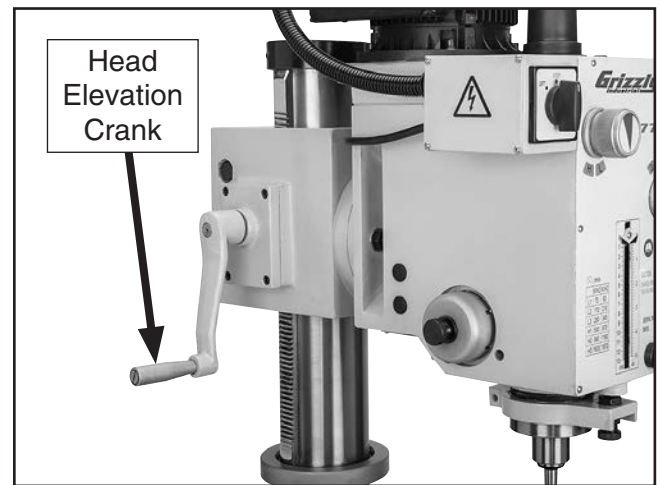

Figure 15. Location of head elevation crank.
3. Use head elevation crank shown in **Figure 15** to adjust headstock height.
3. Make sure headstock and cords can move unobstructed, then manually rotate headstock around column **Figure 15**.